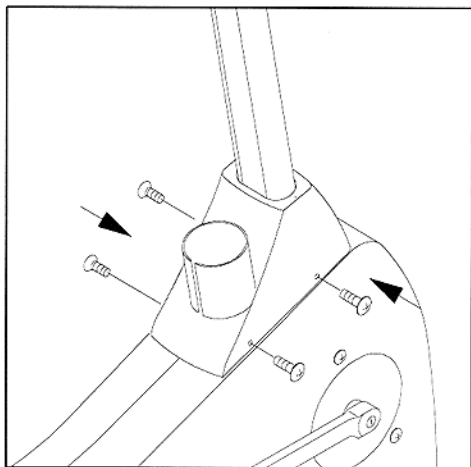

Fig.3
5. Use four screws to secure the upright post cover(see Fig.3).